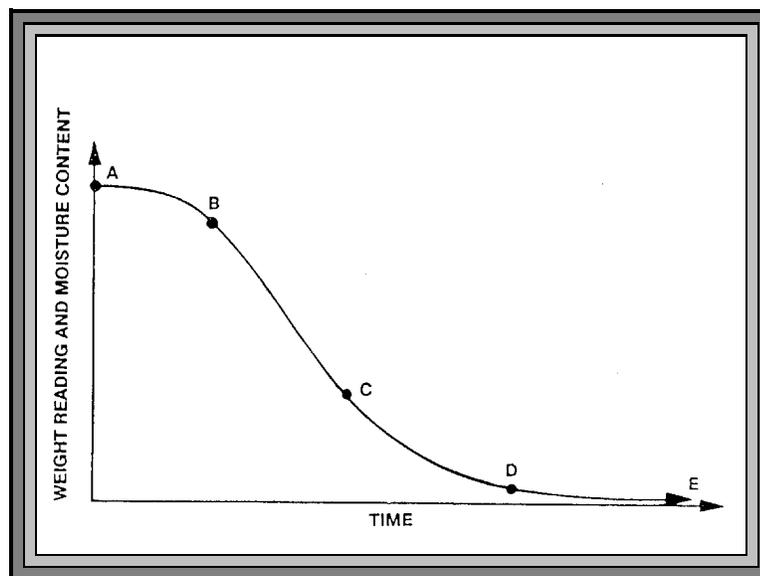

Figure 53 DRYING CURVE
- 10.1.2 A typical drying curve (see **Figure 53** below) consists of three portions: The first portion (A-B) represents the sample's weight loss as it heats from room to testing temperature.